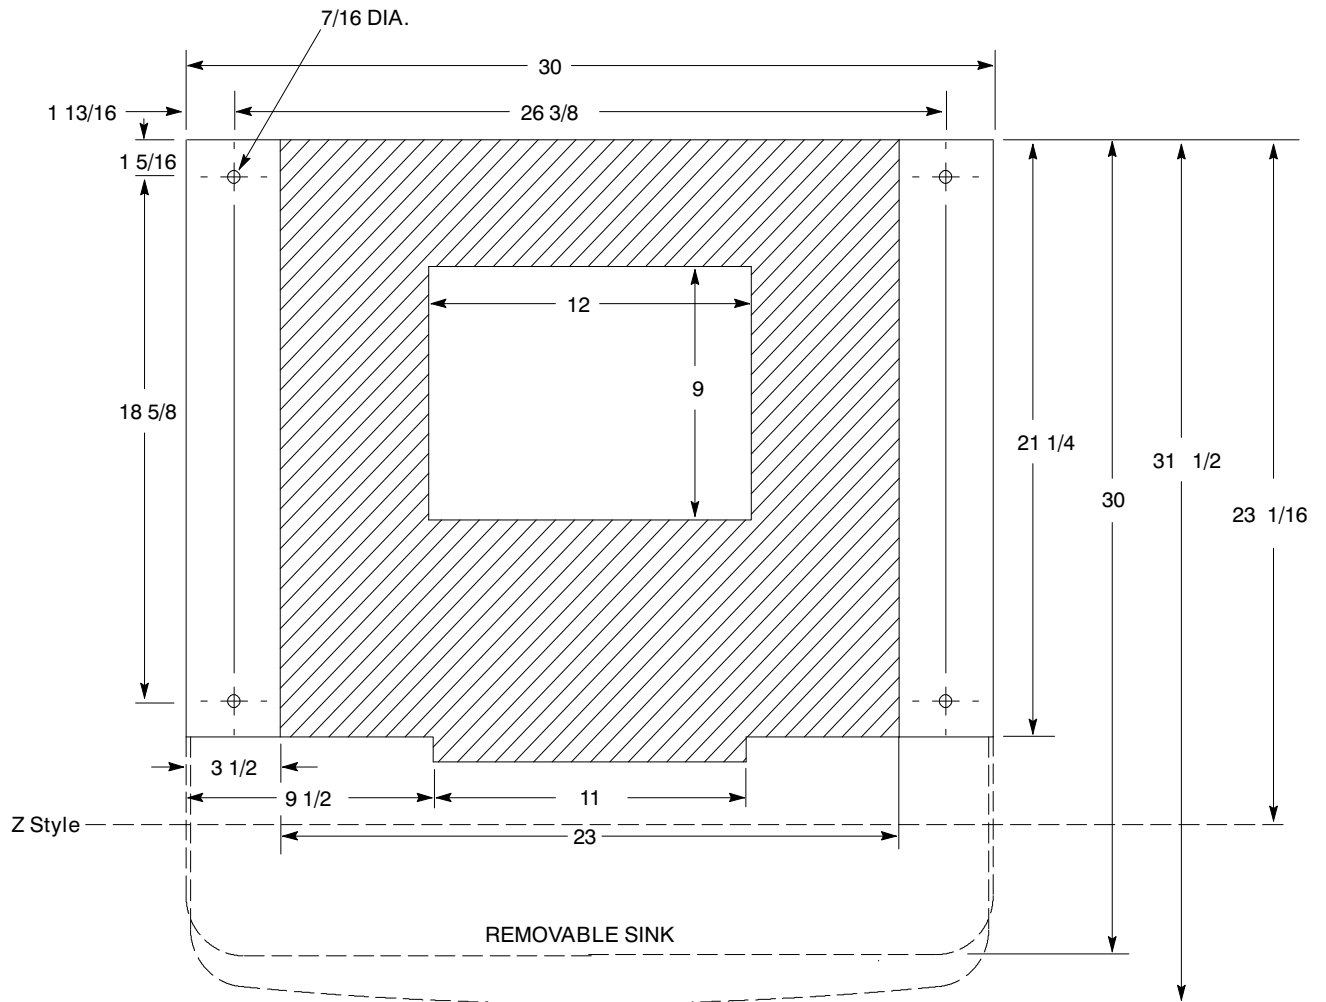

Figure 6. FlavorFusion Mounting Template
The ice dispenser must be sealed to the counter. The template drawing (see Figure 6) indicates where openings can be cut in the counter. Locate the desired position for the dispenser, then mark the outline dimensions on the counter using the template drawings. Cut openings in the counter.
2. The beverage tubes, drain tube and power cord are routed through the large opening in the bottom of the unit. See the MOUNTING TEMPLATE (Figure 6): for locating the required clearance opening in the counter for these utility lines.